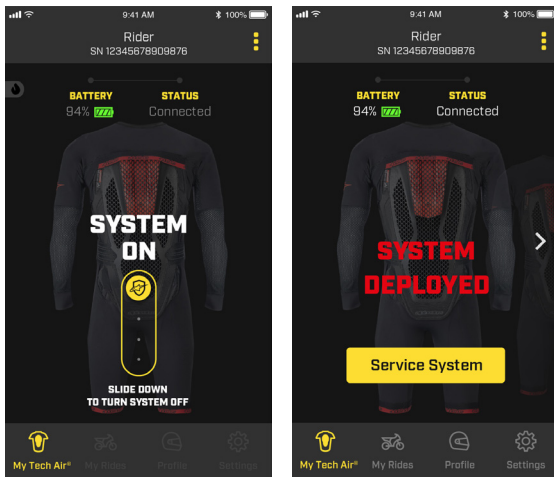

Figure 16
While riding, “System On” mode is active and accordingly, for safety reasons, the user cannot access most of the App functions. In case the System needs to be disabled by the user, such as during a heavy off-road riding session, the System can be turned off using the slide icon on the App (as shown in Figure 16). To reactivate, open and close the Activation Belt (4). In case of deployment, the App will show the relevant status with the wording “SYSTEM DEPLOYED” as depicted in Figure 16.